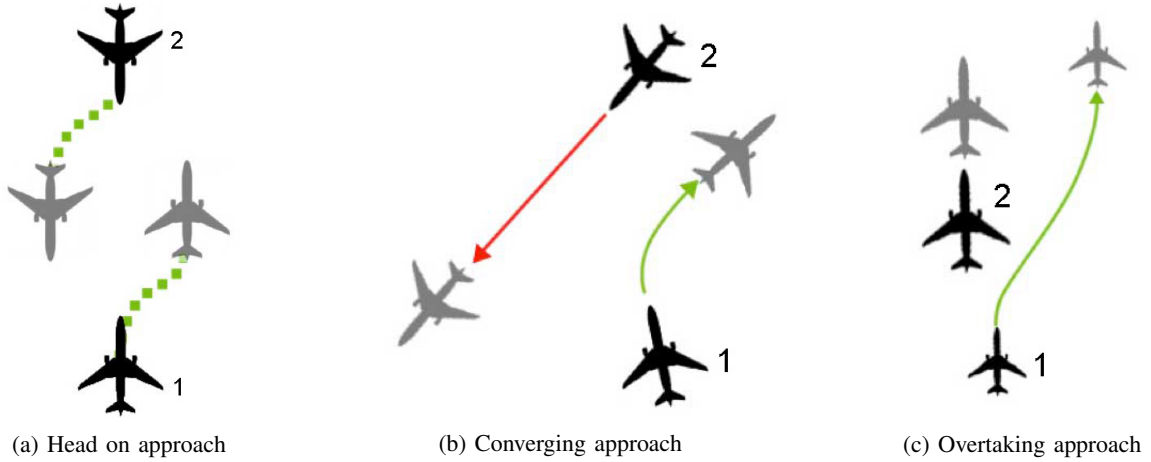

Figure 9: Different configurations to test: Head on, converging or overtaking approaches
1) *Test Approach:* To test the designed prototypes, several configurations of static and moving positions will be evaluated, as shown in figure 9. Static positions: